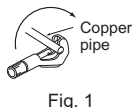

Fig. 1
- The drain hose should point downward for easy drain flow. (Fig. 1)
- Put the refrigerant piping and the drain hose together, then firmly apply felt tape (7) from the end. Felt tape (7) overlap width should be 1/3 the tape width. Use a bandage stopper at the end of felt tape (7).
- Pull out the drain cap at the rear right of the indoor unit. (Fig. 1)
- Cut the copper pipe correctly with pipe cutter. (Fig. 1, 2)